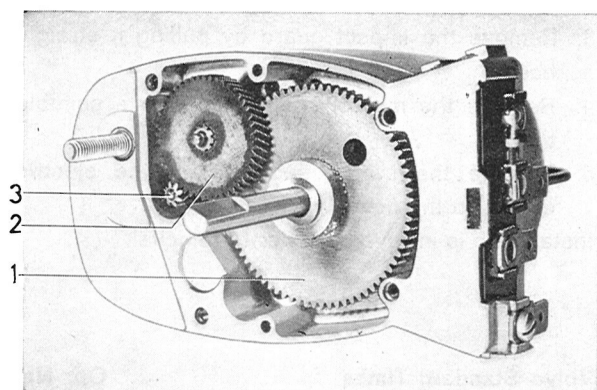

Fig. 3-146. Drive housing
7. Pull the intermediate drive and drive on the output shaft straight out, see Fig. 3-146. Note the washer on the top side of the output shaft drive and flat washer underneath.
2. Place the large drive with the output shaft and intermediate drive in position in the drive housing, see Fig. 3-146 (do not forget the two washers) and install the cover.